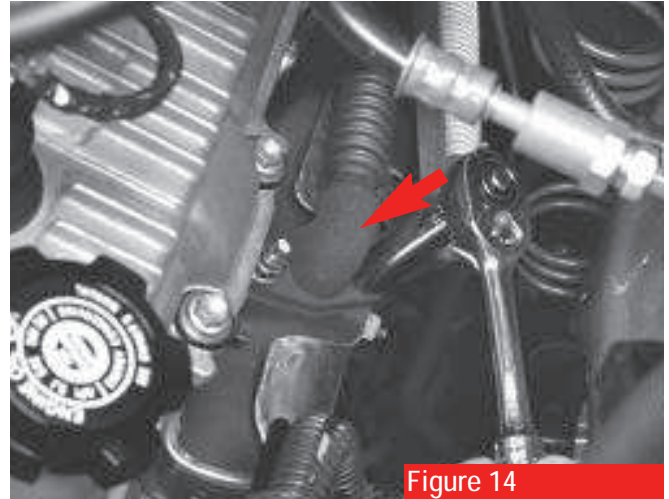

Figure 14
18. A pre-2000 Tacoma or T-100 may be equipped with an EGR valve. To be sure, look for this tube **(see arrow, figure 14)** on the driver's-side exhaust manifold. Remove the valve according to the procedure on page 14.